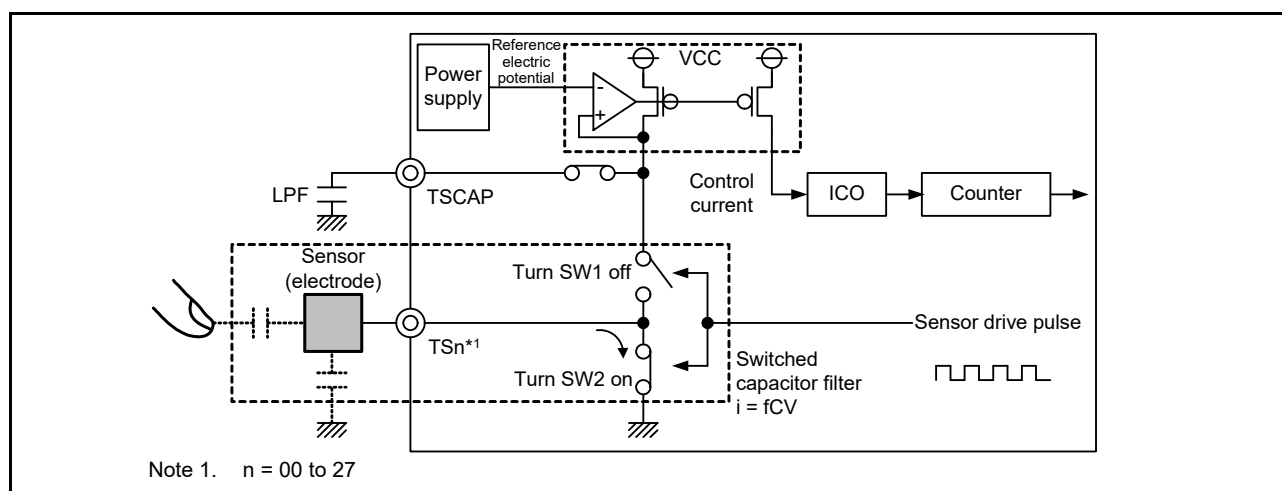

Figure 40.6 Discharging operation
2. The charged capacitance is discharged by turning SW1 off and SW2 on. See Figure 40.6.